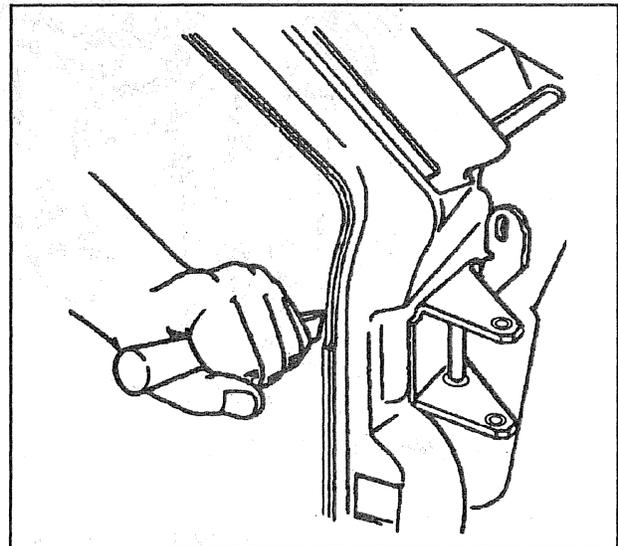

Figure 49—Chiseling Welded-On Hinge
E. Drive a chisel between the hinge and door pillar (figure 49).